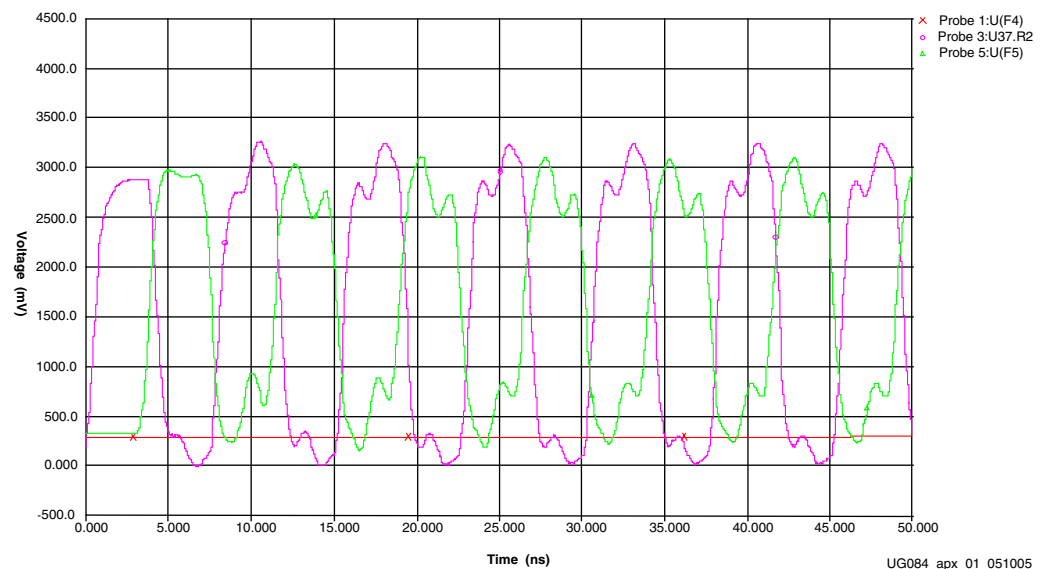

Figure A-1: Bottom Jumper in Place (R242 only)
- Figure A-1, Bottom Jumper in Place (R242 only)
In Figure A-1, the Magenta waveform (with the highest peaks) is the clock source on the mother board, and the Green waveform shows U10.D2 on the ML455 board.